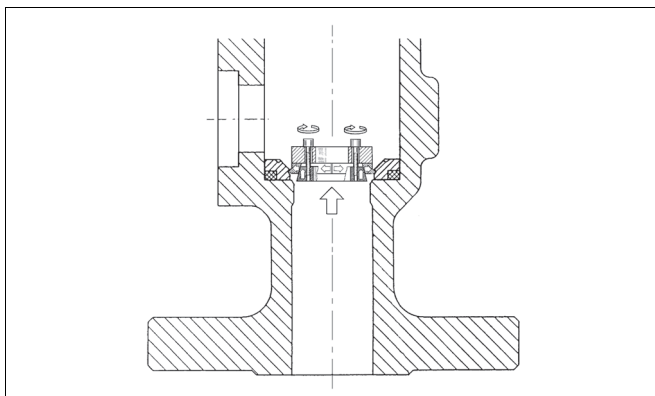

Fig. 16 Removing the locked seat
- ❑ Remove the body cap (2). If the seat (7) is not lying on the ball (3), prevent the seat from falling from the body cap and detach it later. **Don't leave your fingers between the body cap and the surface!** Stand the removed body cap on its pipe flange
- ❑ Remove the locked seat (7) using a outpulling tool, see Fig. 16. See also Section 8 'Tools'.